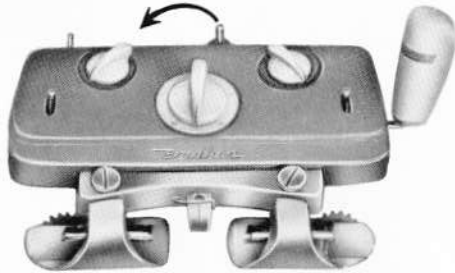

Fig 57
2. Grip the Carriage Releaser, as shown in Fig. 57 and move it from Right to Left as far as it will go. Now the carriage is disengaged from the needles.